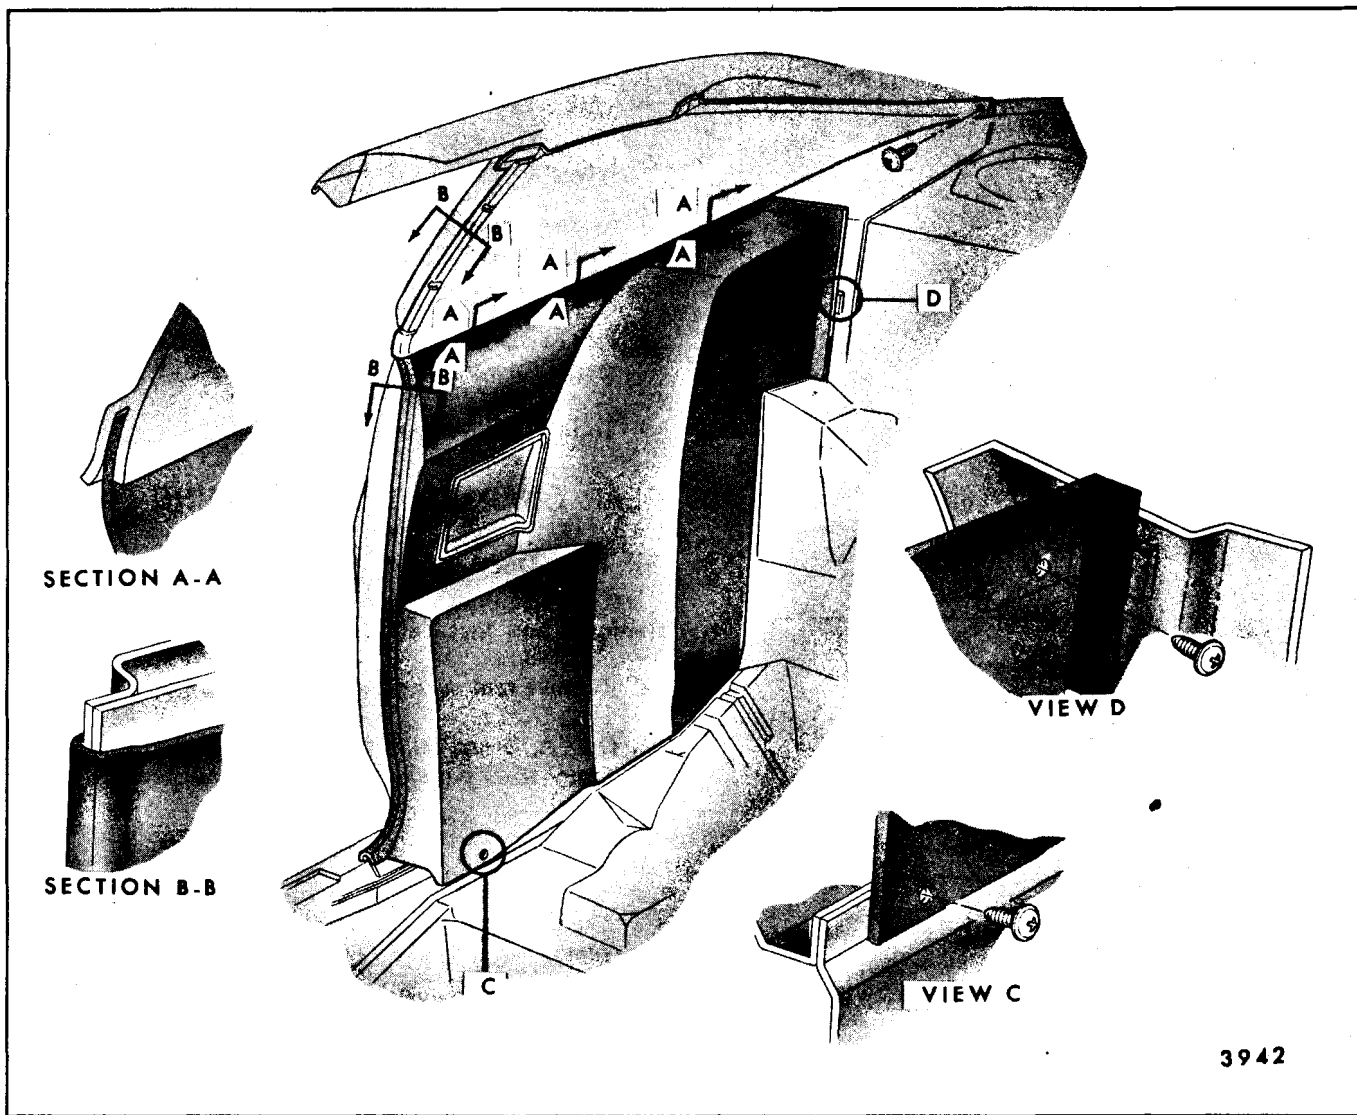

Fig. 13-22-Rear Quarter Trim Attachment - "F" Styles
The rear quarter trim panel consist of a one-piece plastic panel with an integral arm rest (Fig. 13-22).
3. Remove attaching screws from lower front (View "C", Figure 13-22) and upper rear (View "D", Figure 13-22) of trim panel.